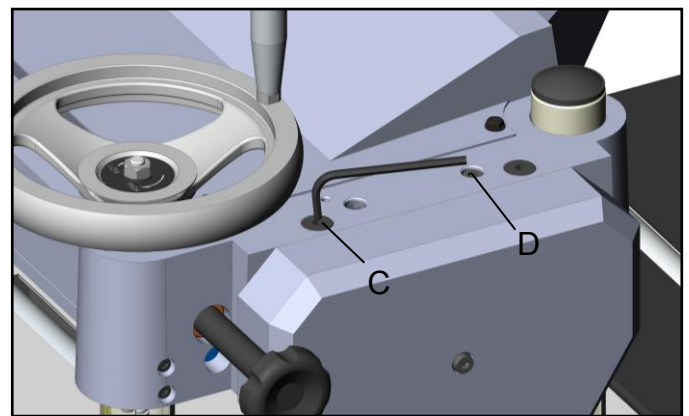

Fig. 17
To adjust the spring tension of the outfeed roller, turn screw (D) and also the screw on the opposite end of the planer.(Fig. 17)